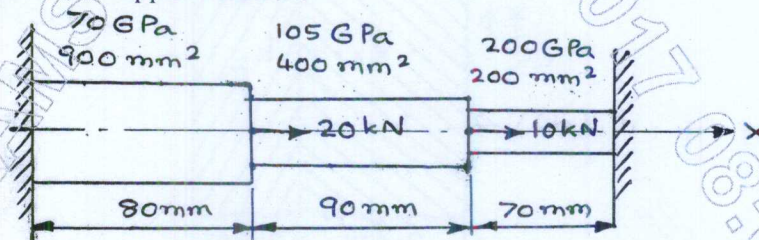

Fig.Q4(b)
- b. For the three stepped bar shown in Fig.Q4(b), find the nodal displacements, stress in the middle portion and left support reaction. (10 Marks)